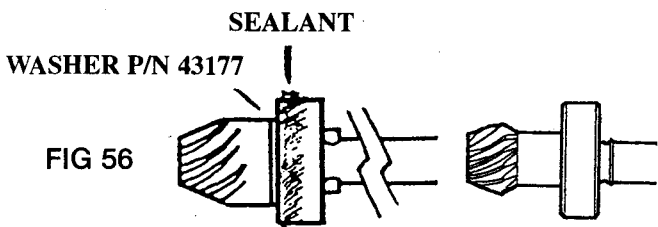

FIG 56
3. Fit new pinion with fresh loctite on thread, making sure it is tight up to spacer washer #43229, (Fig. 56) and washer does not move.
1. Clean and dry pinion bearing. Place oil resistant gasket sealant (e.g. Fullerprene 303) around bearing (Fig. 56).